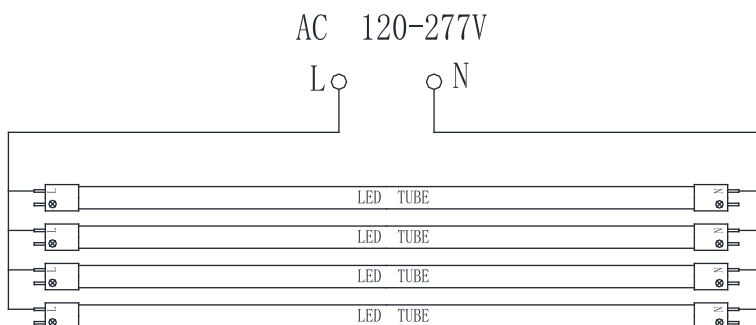

Fig. 5
STEP 6: In accordance with the below drawing, connect the wires of “L” and “N”, shown as below Fig. 5: